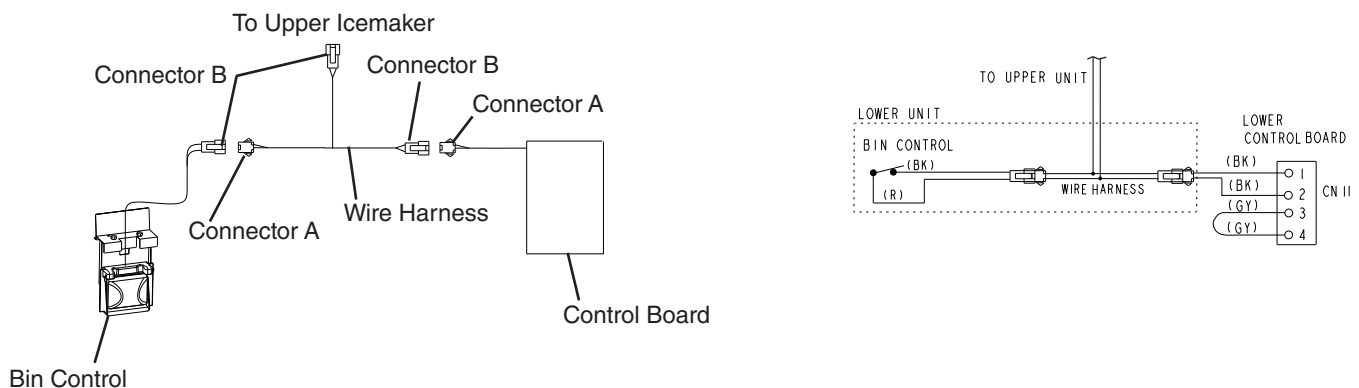

Fig. 3
- 7) Connect the wire harness provided in this kit, to bin control connector B and control board connector A. See Fig. 3.